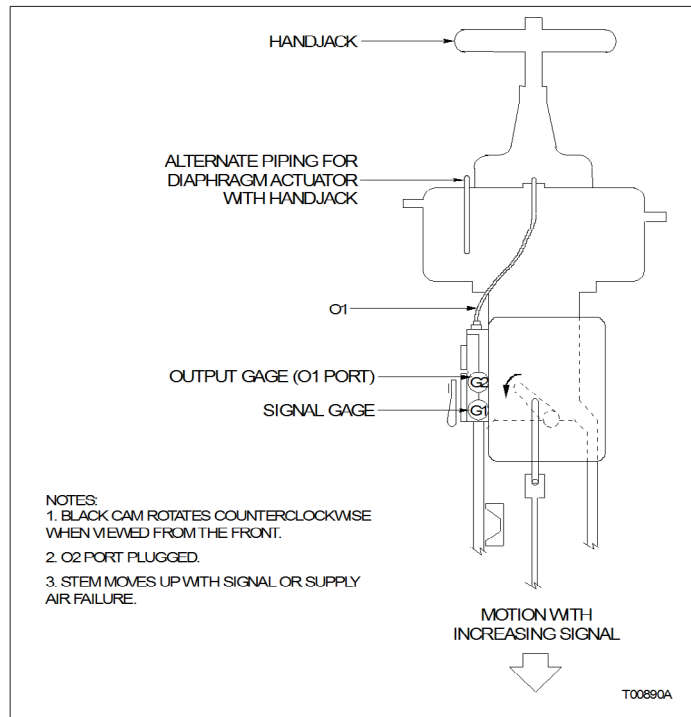
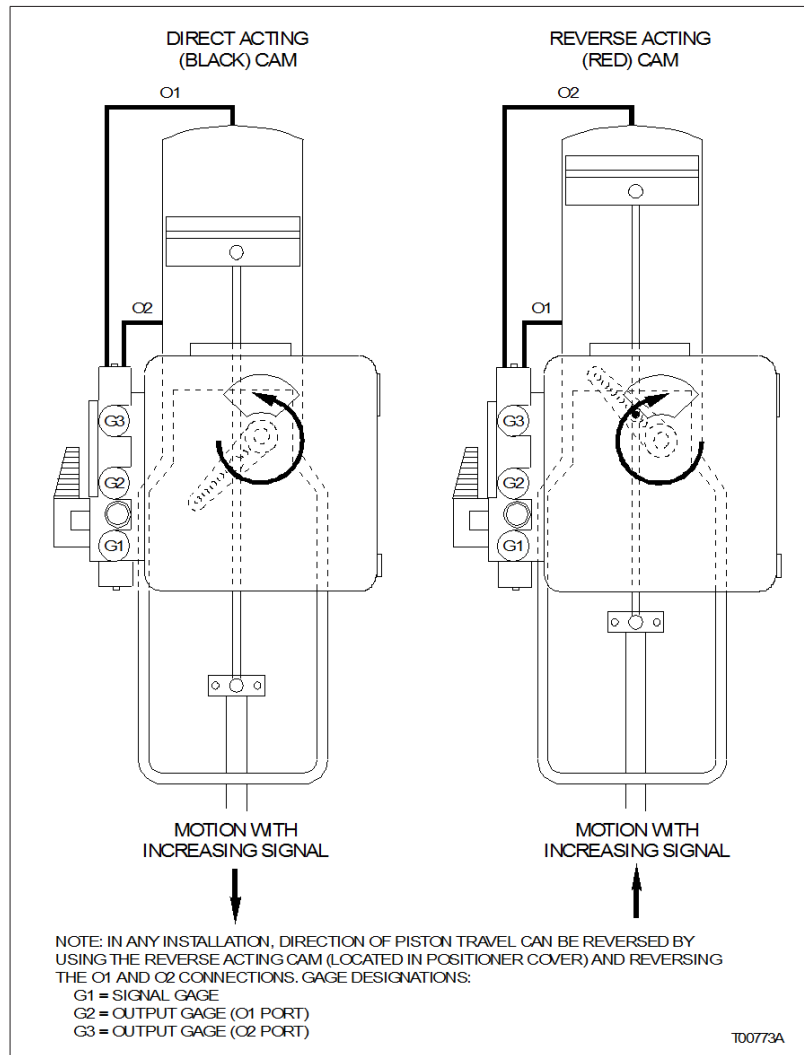

Figure B-6. Direct Acting, Top Loaded, Single Acting Tubing Example
Figure B-10. Double Acting Tubing Example
3. Connect the output ports O1 and O2 as required to provide the desired direction of rotation. Figures B-6, B-7, B-8 and B-9 show a single acting tubing example, and Figure B-10 shows a double acting tubing example.
NOTE: The piping arrangements shown in Figures B-6, B-7, B-8, B-9 and B-10 are general examples and may not reflect the arrangement required for the application.